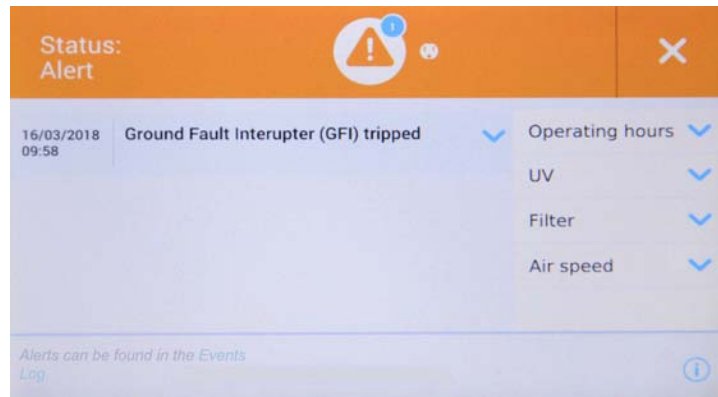

Figure 62 “Status Alert” Screen with Alert Screen Message, Status Alert GFI
If you tap the “Alert triangle” icon, you will be taken directly to the “Status Alert” screen with its alert list, shown in Figure 62.
3. Tap the yellow “Health Status Alert” icon to display the “Status Alert” screen shown in Figure 62 and review the alerts list.